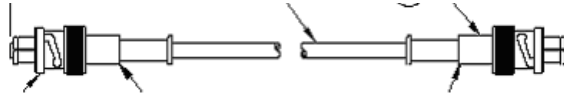

Figure 17: IMG Cable Wiring
- Wire the connectors as per Figure 17: IMG Cable Wiring. Use the Tyco-Amp Certi-Crimp tool # 220022-1 to assemble these connectors to the cable. Instructions can be found at: